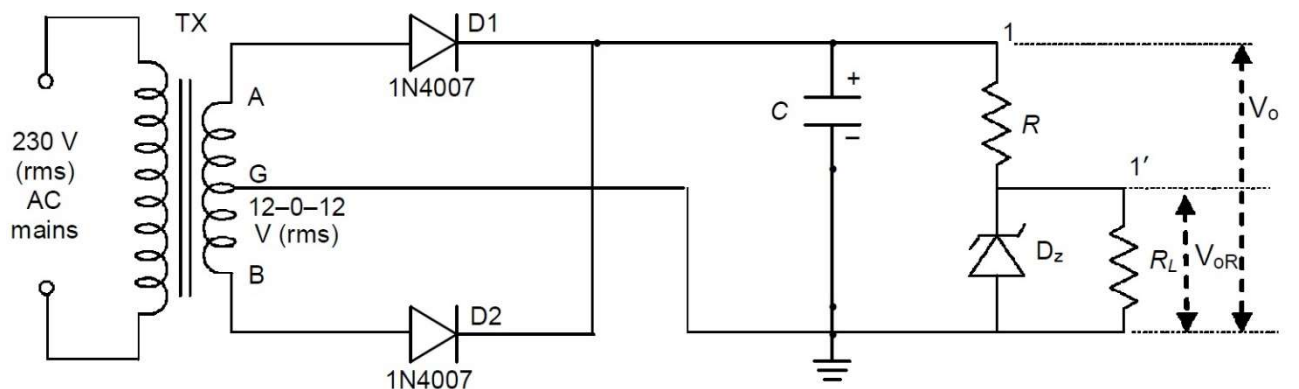

Fig.2
1. Connect a Zener diode  $D_Z$  with series resistance  $R = 560\Omega$  as shown in Fig.2. The voltage across  $D_Z$  will now be the desired (regulated) output voltage  $V_{OR}$  which will supply current  $I_L$  to the external load  $R_L$ .